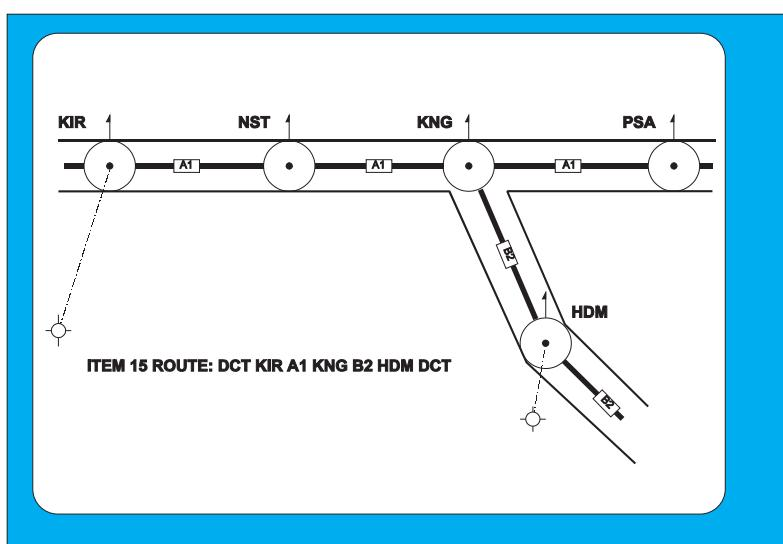

Figure 12.3 Use of DCT
- If the **destination airfield is not on or connected to** an ATS route the last entry will be **DCT**. (*Figure 12.3*)